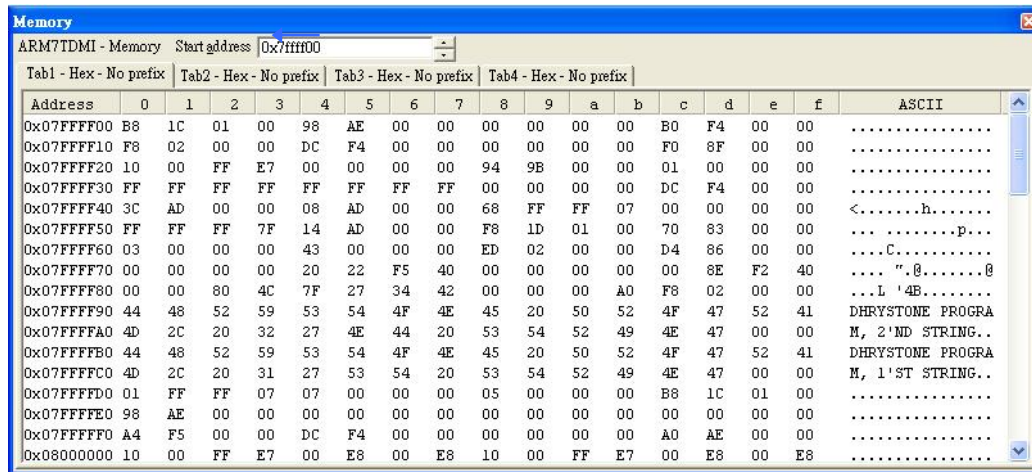

Figure 19. Examining contents of memory.
- 5.1 Addresses and contents of variables in Figure 19 shows that addresses of interest are in the region of **0x07FFFFD0**, so set the **Start address** value to, say, **0x07FFFF00**.